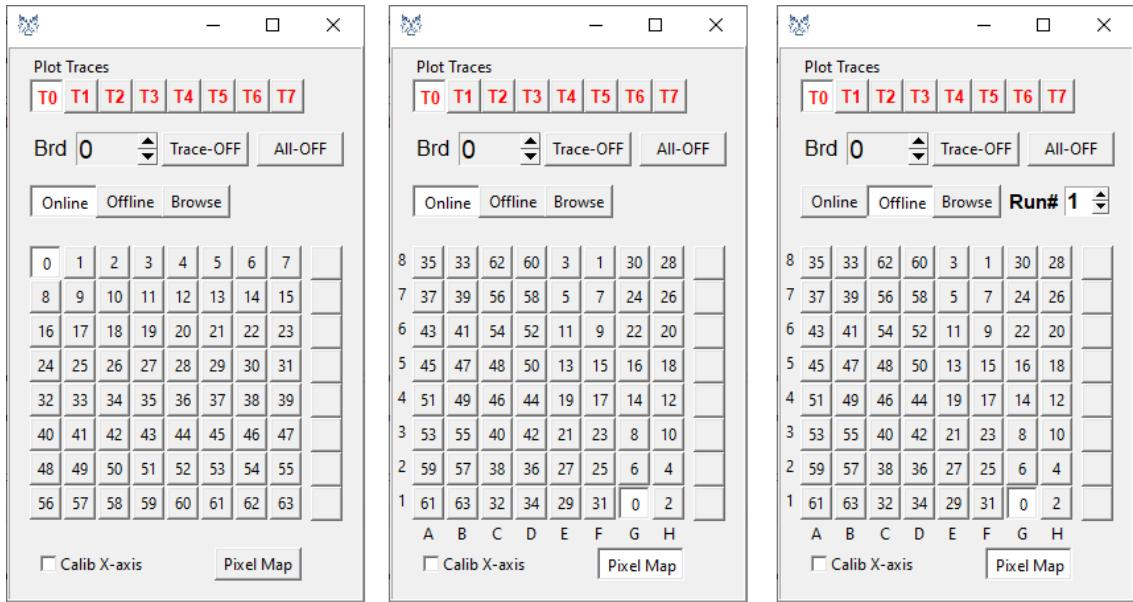

Fig. 3.7: Plot Traces window with the Pixel Map button disabled (on the left), enabled (in the middle) and with the Offline button enabled (on the right).
The Plot Traces command  allows the user to access the Plot Traces window (see Fig. 3.7) to manage the traces to be visualized in the gnuplot window. A maximum of 8 traces from different channels can be visualized at the same time.
- **Run#:** The command is active only when the Offline option is enabled in the Plot Traces window (see **Fig. 3.7**) and allows the user to select the ID of a previously saved run whose spectrum need to be visualized.
- **Pixel Map:** The button, if pressed, allows the user to visualize the correspondence between each channel and the physical position of the correspondent SiPM in a 8×8 SiPM matrix. For instance (see **Fig. 3.7** on the right), channel 50 is associated to the position D5 and thus corresponds to one of the central SiPMs of an 8×8 SiPM matrix. The pixel-channel association is loaded by Janus 5202 from the "pixel_map.txt" file in the "bin" folder.
- *Spect ToA*. Time of Arrival (ToA) spectrum (X-axis = ToA, Y-axis = Counts). The ToA is the time elapsed between the rising edge of a T_{ref} signal (defined by the **Tref Source** parameter) and the channel Time Discriminators (TD) self-triggers. In the case of Common Start Mode, the T_{ref} signal arrives before the trigger, so the ToA (which is then a ΔT) is positive. In Common Stop Mode, the T_{ref} signal arrives later and ΔT would be negative, but it is changed sign before being represented in the spectrum. The ToA has a dynamic range of up to 25 bits (1 LSB = 0.5 ns), or 16 bits when ToT is enabled. However, the spectrum is not made on 2^{25} nor 2^{16} channels, so a conversion factor is applied. The conversion is 1 LSB = 1 Channel and the value is truncated to the maximum number of channels which can be selected via the **ToA N Channels** parameter. For instance, in case the option "4K" is selected for the **ToA N Channels**, the maximum value represented for the ToA spectrum is $4096 \times 0.5 \text{ ns} = 2.048 \mu\text{s}$.
- To select the output from the Citroc-1A associated to channels from 0 to 31 the user has to select any channel from 0 to 31 for the first trace in the Plot Trace window (see **Fig. 3.7**). The same instructions can be followed to select the output from the other Citroc-1A chip.
- *2D-TrgRate*. Two-dimensional histogram (heat map) of the counts from all enabled channels. The pixels have coordinates from A to H for the X axis and from 1 to 8 for the Y axis. Pixel "A1" is the bottom left, "H8" is the top right. The correspondence between pixels and physical channels (from 0 to 63) is established on the basis of a text file named "pixel_map.txt" in the "bin" folder. The correspondence is visible also in the 2D plot (each pixel contains the channel ID number) or in the Plot Traces window (see **Fig. 3.7**) by pressing the Pixel Map button. If the "pixel_map.txt" file is not found, the default correspondence is A1 = CH0, A2 = CH1, ..., H8=CH63. The Z axis of the 2D plot displays the count rate (expressed in cps) of each channel.